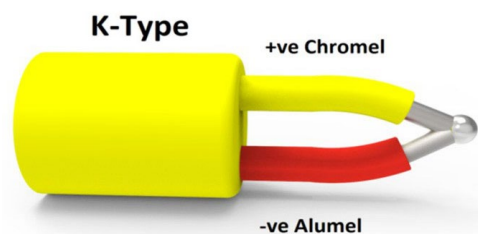

Figure A1a / Rajah A1a
- a) Figure A1a shows a K-type temperature sensor, which is made of chromel and alumel. Write your knowledge of this sensor.